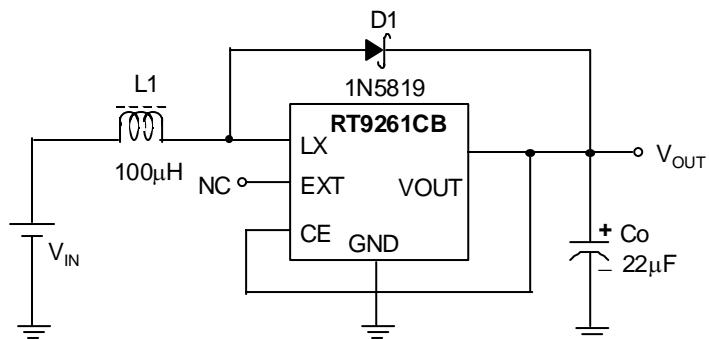

Fig. 3
(1) Unless otherwise provided,  $V_{IN} = 1.8\text{V}$ ,  $V_{SS} = 0\text{V}$ ,  $I_{OUT} = 10\text{mA}$ ,  $T_{OPT} = 25^\circ\text{C}$ , and use External Circuit of Typical Application
(2) Unless otherwise provided,  $V_{IN} = 3\text{V}$ ,  $V_{SS} = 0\text{V}$ ,  $I_{OUT} = 10\text{mA}$ ,  $T_{OPT} = 25^\circ\text{C}$ , and External Circuit of Typical Application
**Electrical Characteristics** (Refer to Fig. 3)